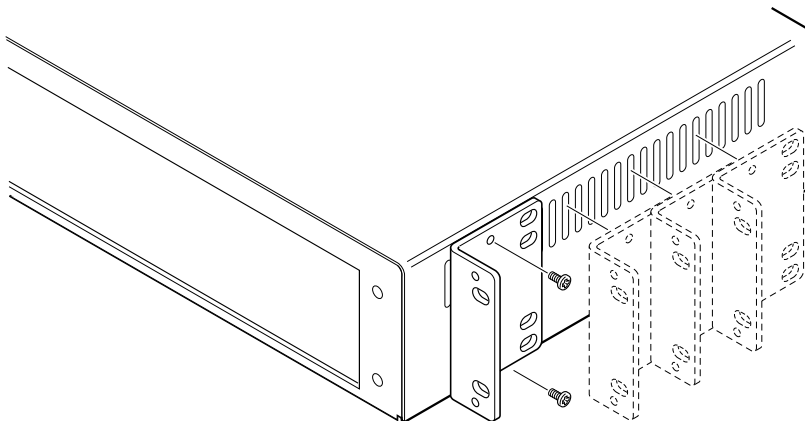
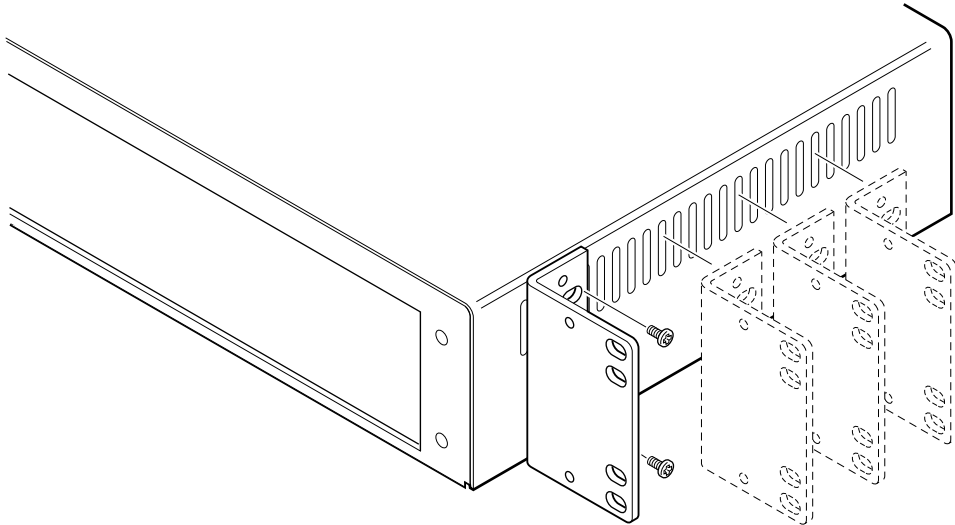
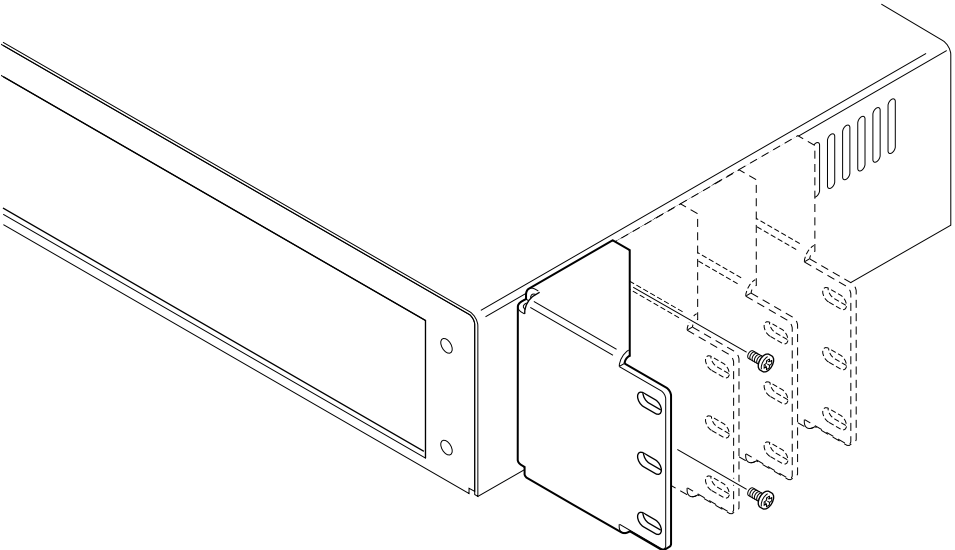

Figure 2-1. Attaching Mounting Flanges for the 19-inch Equipment Racks
Figure 2-2. Attaching Mounting Flanges for the 21-inch Equipment Racks
Figure 2-3. Attaching Mounting Flanges for the 23-inch Equipment Racks
Use the following procedure to attach the mounting flanges to the 55310A/55320A/55322A rack mount shelf as shown in figures 2-1 through 2-3.
Figure 2-1 illustrates flange attachment for 19-inch racks. Figure 2-2 illustrates flange attachment for 21-inch racks. Figure 2-3 illustrates flange attachment for 23-inch rack
The same pair of flanges are used for the 19-inch and 21-inch racks. The flanges are simply rotated to become 19-inch or 21-inch flanges as shown in figures 2-1 and 2-2.
- 2 Position the mounting flange with its mounting holes so it aligns with its mounting holes in the side of the shelf. There are four positions or offsets to installed the flanges as shown in figures 2-1 through 2-3.